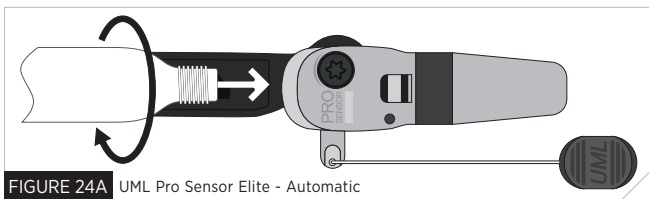
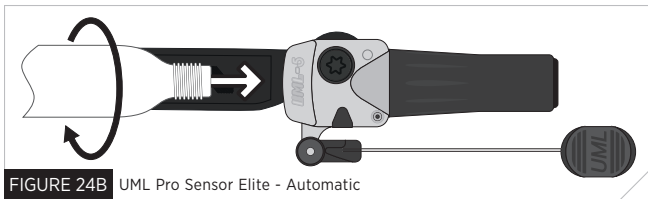

FIGURE 24A UML Pro Sensor Elite - Automatic
FIGURE 24B UML Pro Sensor Elite - Automatic
6. Screw the cylinder into the inflation mechanism in a clockwise direction (For UML Pro Sensor Elite see Fig 24A; For UML Mk5 Automatic see Fig 24B). Ensure the cylinder is screwed hand tight. The top status indicator will turn green when the cylinder is correctly tightened.